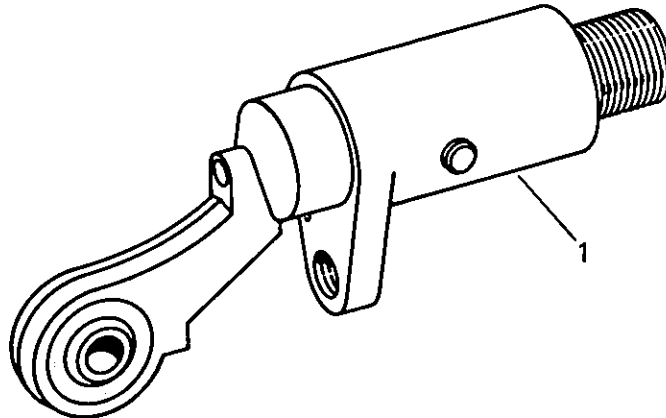

Figure 9. Typical Adjustable Rod End Trimmer Assembly
**ADJUSTABLE ROD END – TRIMMER ASSEMBLY:** Two different main fuel control lever rod-end trimming assemblies are in use. A typical configuration is shown in figure 9. At the time of fuel control overhaul, the rod end assembly should be replaced with an exchange unit: